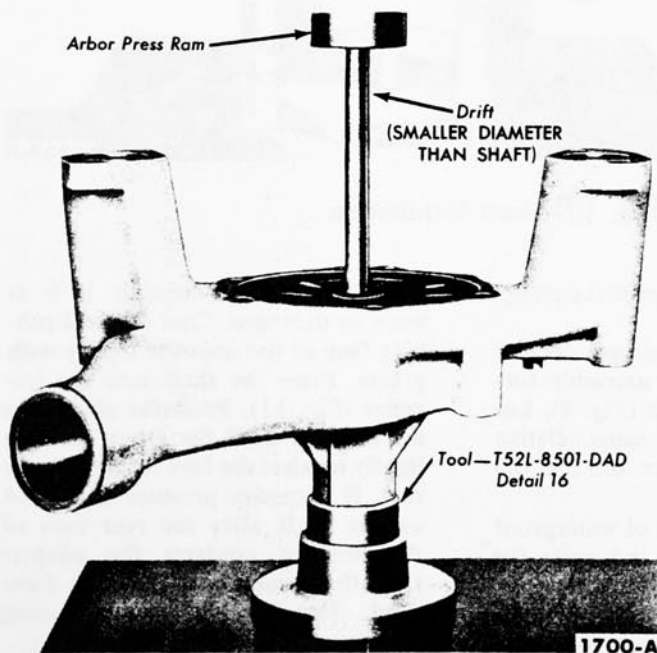

FIG. 6—Shaft Removal
2. Position the pump on an arbor press and press the shaft off the impeller and out of the housing (Fig. 6).